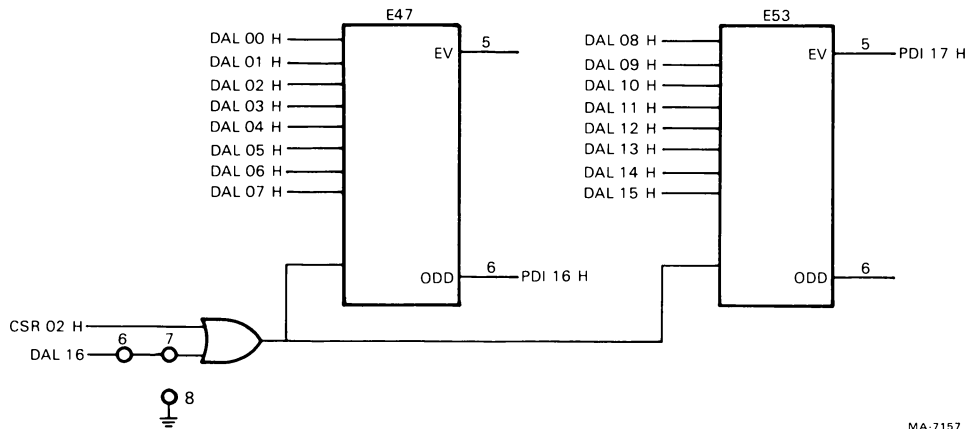

Figure 3-13 Parity Generators
3.3.7.1 Parity Generation - The data received from the bus master on the LSI-11 bus (DAL00-15) goes to the parity generators (Figure 3-13).